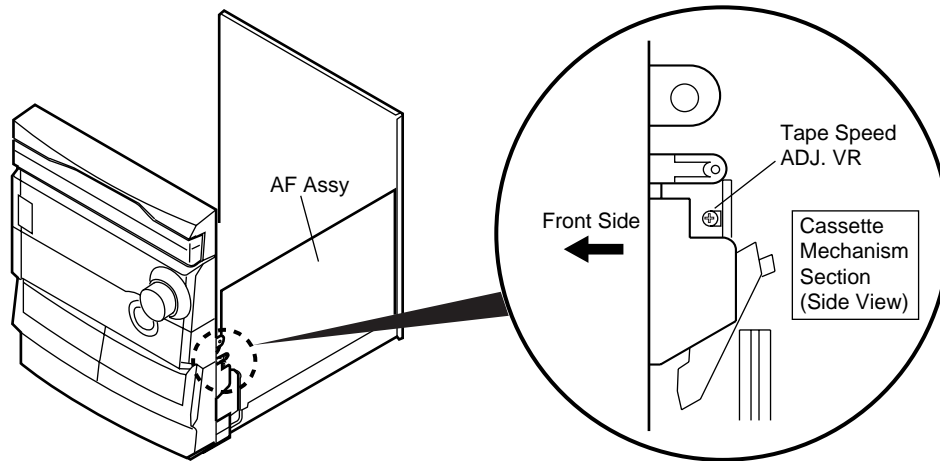
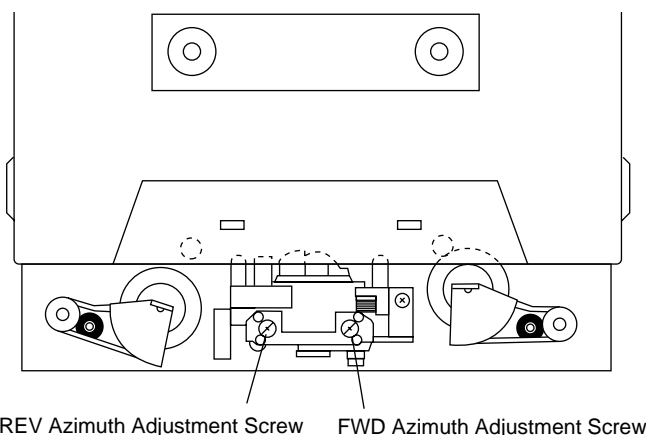

Fig.8 Tape Speed ADJ. Point
Fig.10 Head Azimuth Adjustment Screw
• Adjustment points and test points are shown in Fig.8, Fig.10 and Fig.11.
| 1   | Deck IPLAY | NCT-111(Playback : 3kHz) | ADJ. VR onCASSETTEMECHA(Fig. 8) | TAPE TESTPOINT (Rch)(AF Assy) | Press the PLAY SW and adjust so that the reading becomes $3000\text{Hz} \pm 20\text{Hz}$ . Confirm that wow & flutter level is below 0.3% (in the reverse direction, confirm that the reading is within $3000\text{Hz} \pm 60\text{Hz}$ ). |         |
| 1    | PLAY | STD-331E test tape(Playback: 10kHz,-20dB) | Deck I           | Head azimuthadjustmentscrew (Fig. 10) | TAPE TESTPOINT (L, Rch)(AF Assy) | Max. playbacksignal level | After adjustment, apply silicon bond tothe head azimuth adjustment screw. |